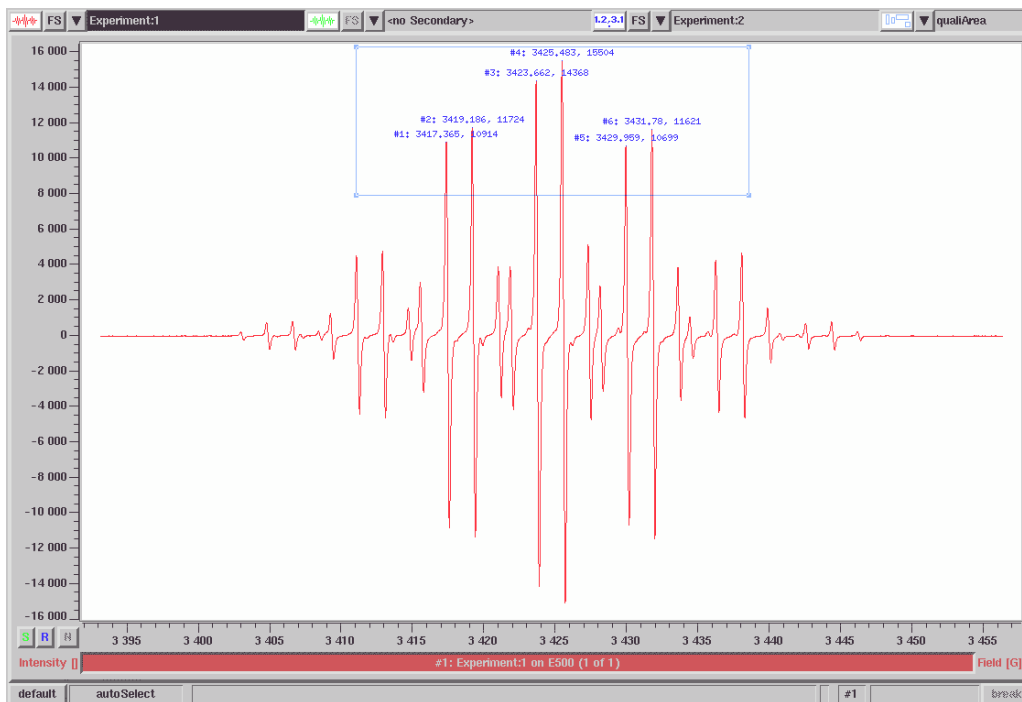

Figure 6-29 Defining the Peak Picking area.
7. **Define the Peak Picking area.** If you are only interested in the peaks of only a specific area of the spectrum, you can define the area for the peak picking function. Click **Start** in the **Peak Picking** menu to restart the peak picking process. Click the **Define Area** button. A rectangular qualifier appears. (See Figure 6-29.) Resize the qualifier to fit the area where you want to pick peaks and then click the **Pick** button. The peaks within the area you defined are now picked.